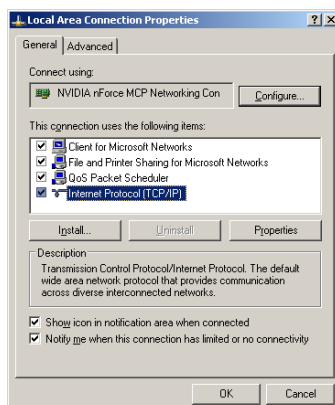

Figure 5.
- In the section of the opened window **This connection uses the following items:**, option **Internet Protocol (TCP/IP)** has to be selected (Fig. 5)